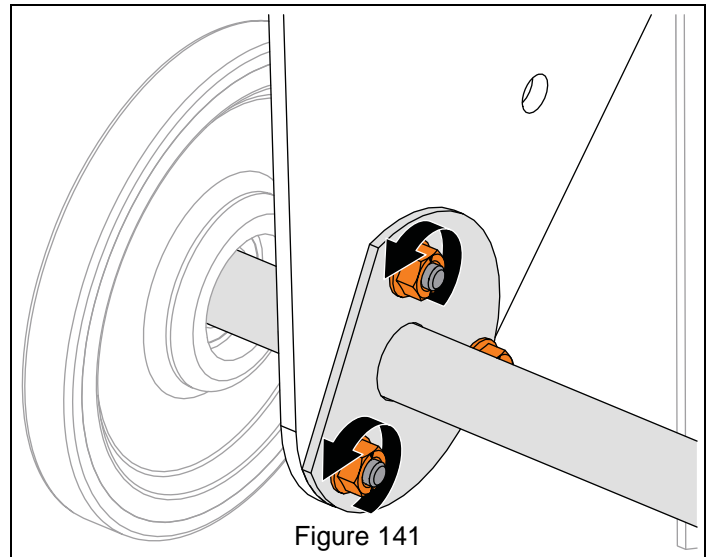

Figure 141
9. Loosen, but DO NOT remove hardware securing mount plates to carriage side plates. See Figure 141.